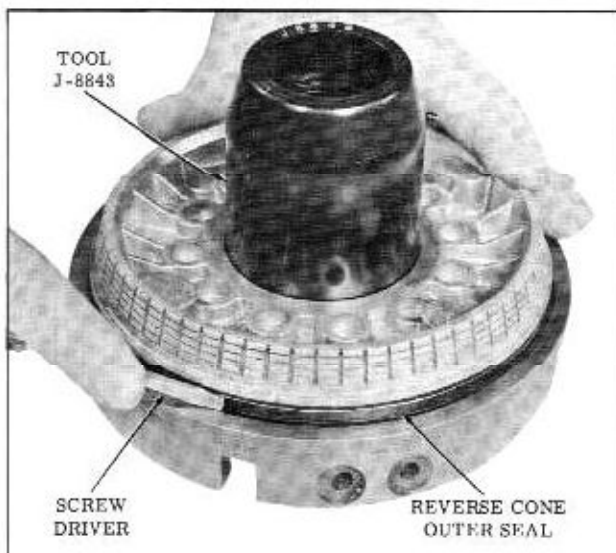

Fig. 3-60 Installing Outer Piston Seal
2. Install reverse piston inner seal protector J-8843 over oil delivery sleeve of case center support. (Fig. 3-60)
will go on only two ways because of offset dowels. (Fig. 3-60)